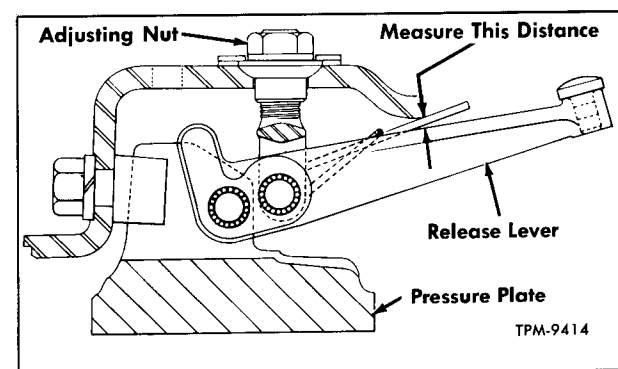

Figure 8—Point of Measurement For Resetting Release Levers
1. Through inspection hole in clutch housing measure distance from edge of clutch cover to lever at point indicated in figure 8.